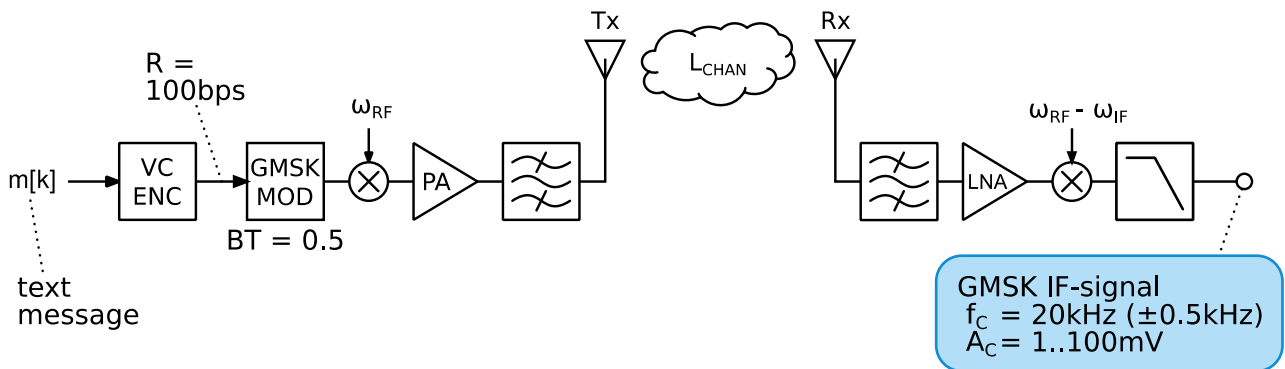

FIGURE 2: COMMUNICATION CHAIN OF GMSK SIGNAL
A visualization on the communication chain in this project is given in Figure 2. A certain text message $m[k]$ is encoded with Varicode into a 100 bps bit stream. This stream is further GMSK modulated and converted for passband transmission. In this project, we omit the RF passband (de)modulation and allow to start the design process on the intermediate frequency (IF) signal. From that signal, you need to design a receiver that retrieves the text message $m[k]$.